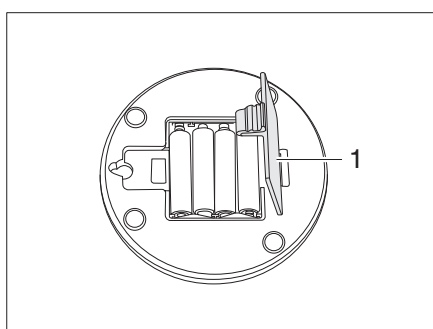

Fig. 109 Lamp in pop-up roof
- Open the battery compartment (Fig. 109,1) and remove the batteries.
- Insert new batteries and close the battery compartment (Fig. 109,1).